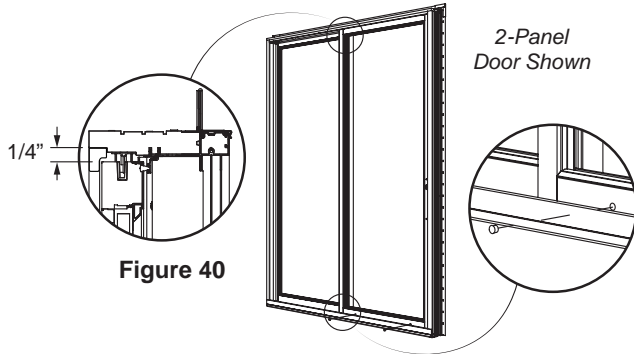

Figure 40
40. To adjust the panels, the rollers can be accessed using the holes on the face of the bottom rails. Each roller can be adjusted separately using a phillips head screwdriver. Turning clockwise raises the panel and counter clockwise lowers the panel. Adjust until panel glides smoothly on the track and panel is plumb and level with the head. Top of panel should be approximately 1/4" from the head (Fig. 40).